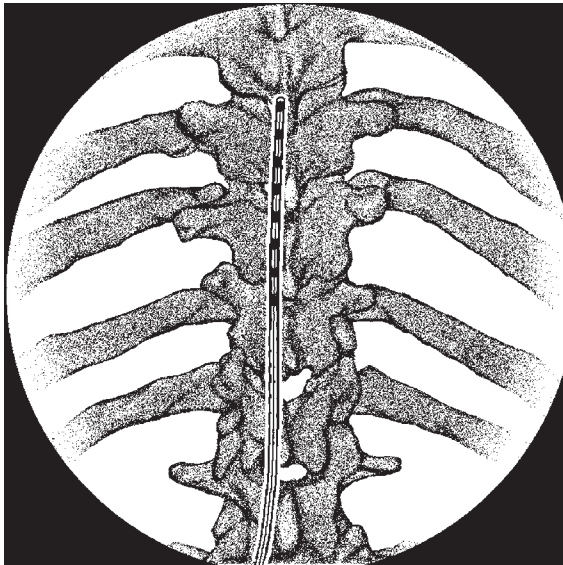

FIGURE 15
- 11 Verify the lead position under fluoroscopy (anterior-posterior and lateral views) (FIGURE 15) and compare the lead tip location with the location that has the highest probability of paresthesia coverage.